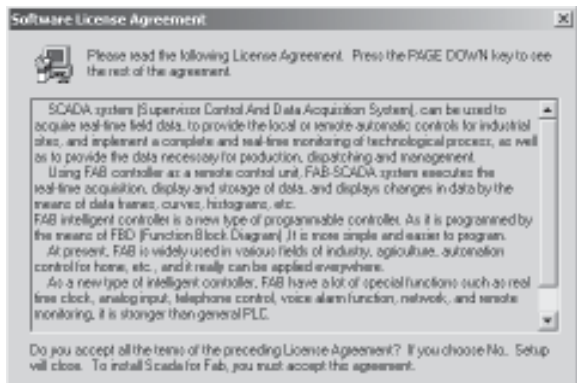
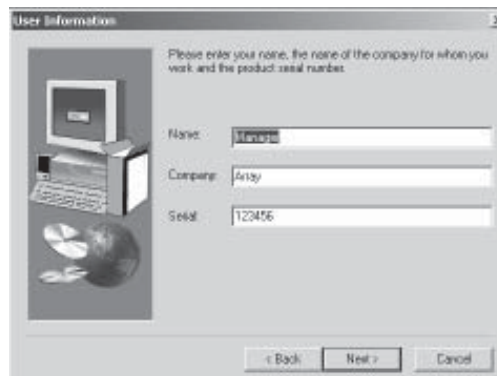

Fig. 2-2 Installation Interface 2
Fig. 2-3 Installation Interface 3
Step2. Click 'Next' to continue in Fig. 2-2. Key in the users' information and click 'NEXT' to continue in Fig. 2-3;